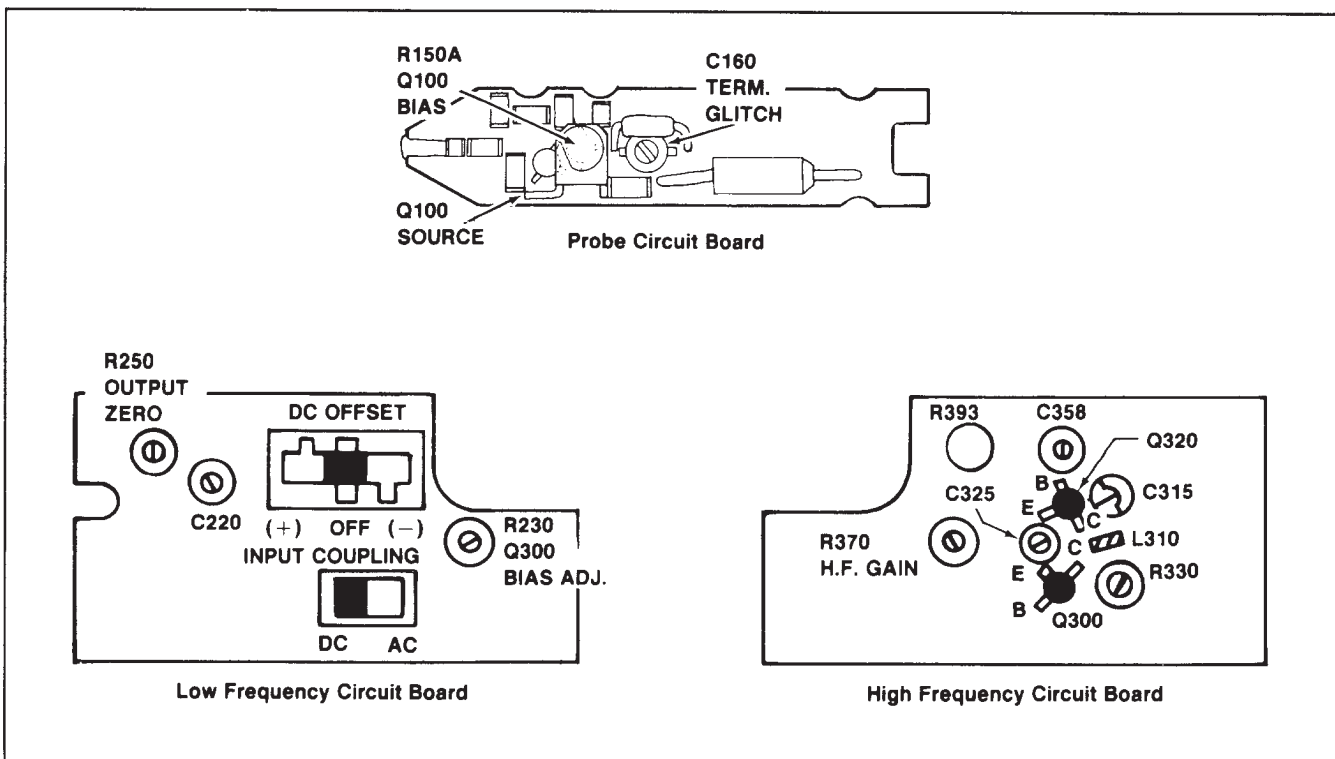

Fig. 5-1. Circuit board adjustment and test point locations.
d. Connect the DMM (Item 7) leads between the source of Q100 (Fig. 5-1) and ground.
- j. ADJUST—Output Zero, R250 (Fig. 5-1) to return the oscilloscope trace to the graticule center.
- k. Connect the DMM leads between the base of Q300 (Fig. 5-1) and ground.
- m. ADJUST—Bias Adj., R230 (Fig. 5-1) for a reading of -3.3 V .
- e. ADJUST—See Table 5-2 and Fig. 5-1 for adjustments. Adjust for optimum transient response and risetime. (For P6201's below serial number B076840: If probe components are replaced, R185 may have to be changed; a lower value will raise the front corner of the square wave and a higher value will lower it. R185 is located on the Probe Circuit Board. Refer to Section 4, Maintenance, for access instructions.)